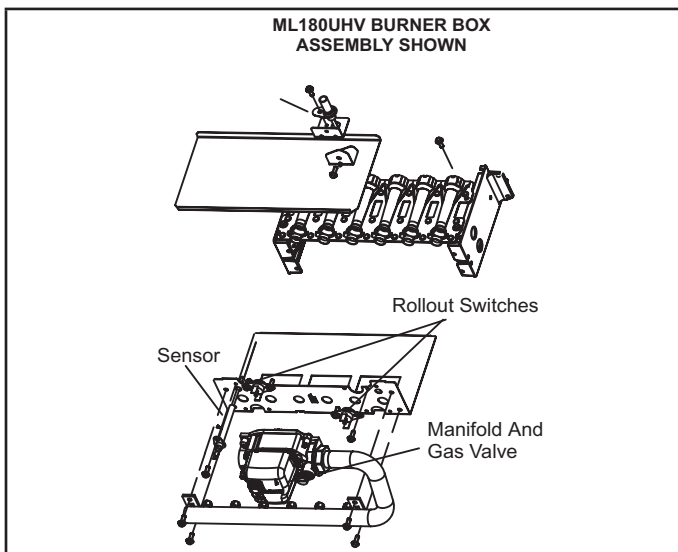

Figure 2
- 5 - Remove the four manifold securing screws. Remove the manifold/gas valve assembly. Replace the main burner orifices with the provided orifices. Torque to approximately 35 in-lbs. See figure 2.